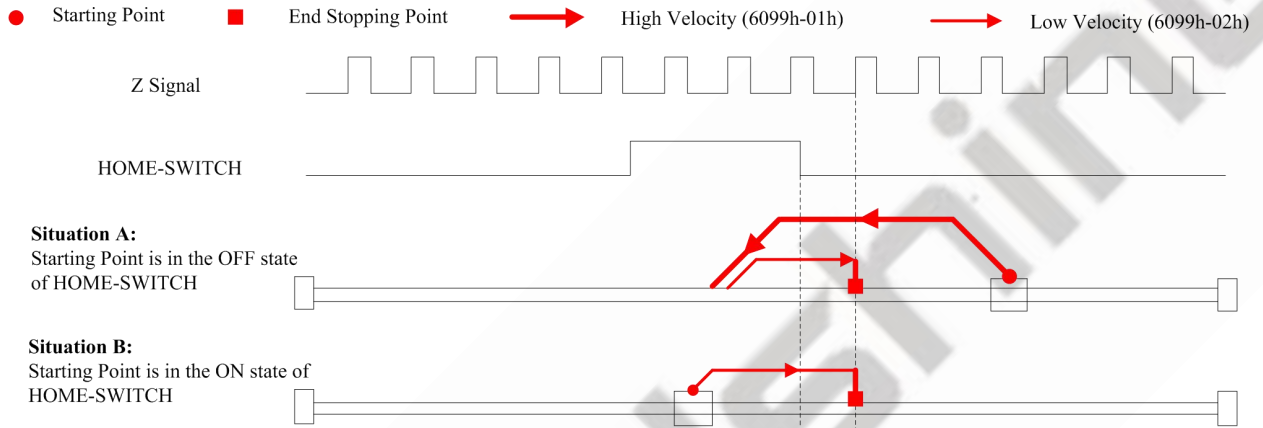

Figure 7-5: Method 5
- If the motor starting point is in the OFF state of HOME-SWITCH like Situation A, it will move toward negative direction at Fast Homing Velocity (6099-01h) until the HOME-SWITCH goes ON, then the motor has a deceleration stop and starts to move toward positive direction at Low Homing Velocity (6099-02h). Stop the motion at the first effective Z signal during the OFF state of HOME-SWITCH, as shown in Figure 7-5.